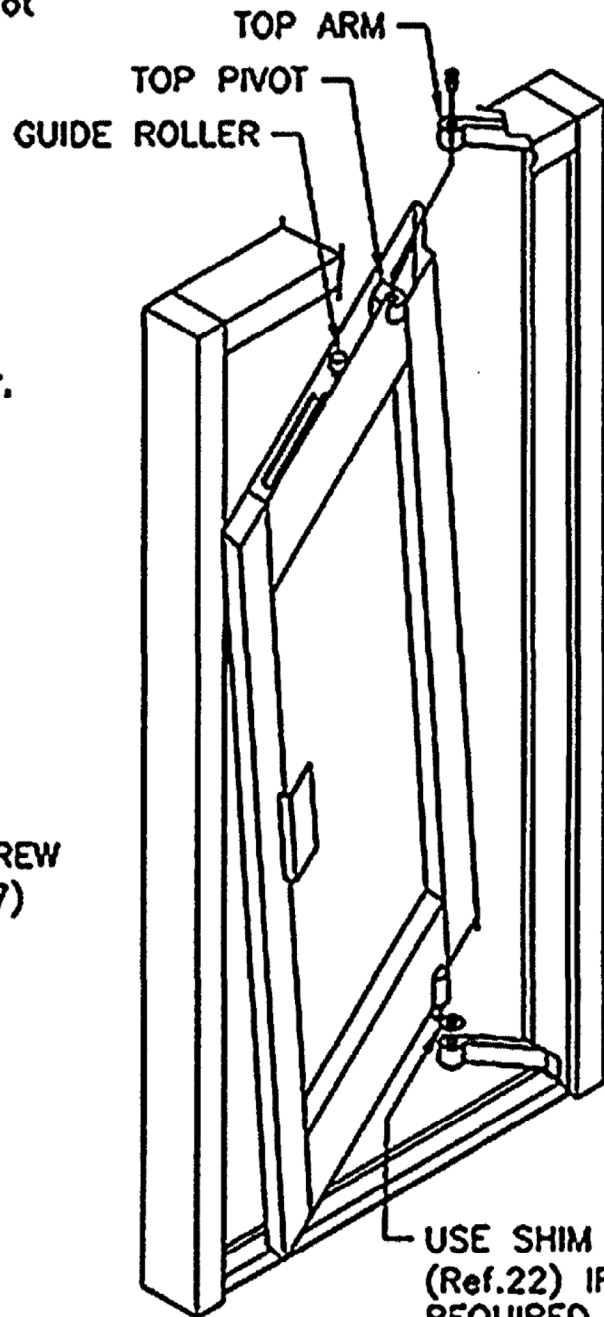

FIG. 4
4. Place one thick shim washer (Ref. 36) over pivot and beneath adjusting gear bracket (Ref. 131). See FIG. 4.